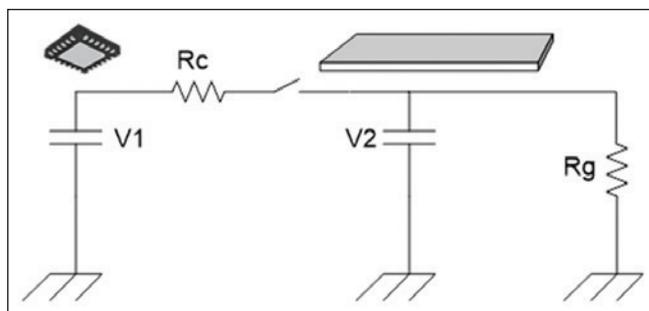

Figure 4: Discharge equivalent schematic
Figure 4 shows a highly simplified equivalent electrical schematic of such a connection (parasitic inductances and capacitances have been omitted for clarity). A device (IC) has a certain capacitance, C_1 , and is charged, to voltage V_1 , likely as a result of being lifted from the tray. An IC handler's arm is about to place this device onto a shuttle (a metal tray for moving ICs in the handler). When the IC comes in contact with the shuttle, the voltage is almost instantly equalized.